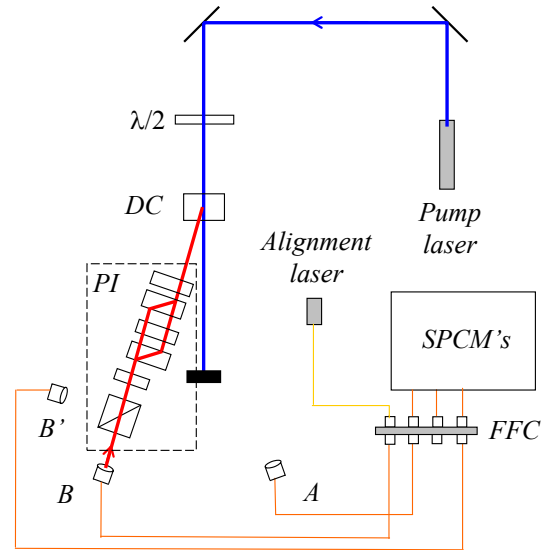

Fig. 4. Observing interference using the alignment laser.
- The fiber leading from the **B** collection optics should be connected to the alignment laser, as shown in Fig. 4. If it isn't, connect it now. Turn on the alignment laser (50 mA max) as you were shown previously.